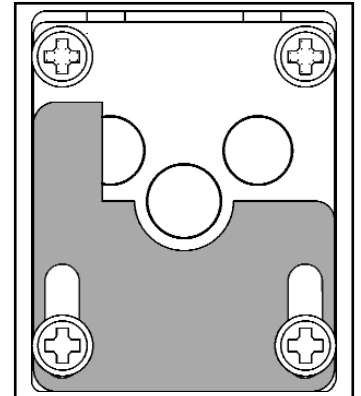

Figure 29.
1. The aeration shutter is factory set. It is important to ensure that the aeration setting is correct (See figure 29).